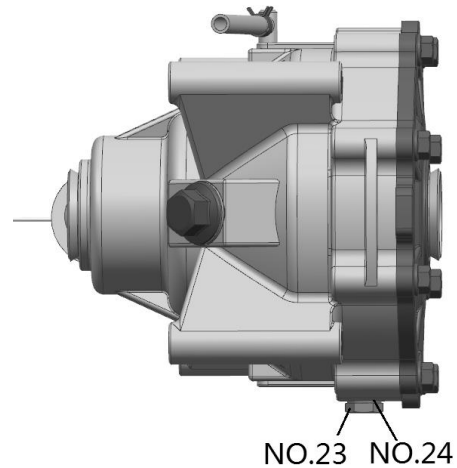

Fig 1
Important: Clean the plug carefully. Replace the sealing washer (NO.24) before it's assembled. →Fig 1
- 3.Remove the differential solenoid (NO.14) from the gearcase cover if servicing the solenoid, shift lever, shift lever spring, or shift yoke. If none of these items are being serviced. The solenoid can remain installed in the gearcase cover. →Fig 1